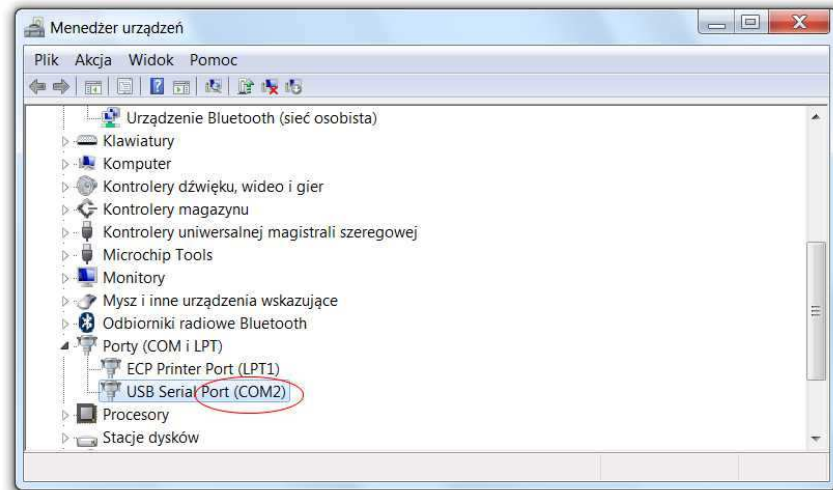

Fig. 1.0.0
1. Check in your System Manager number of COM port assigned/connected to the device – See Fig 1.0.0